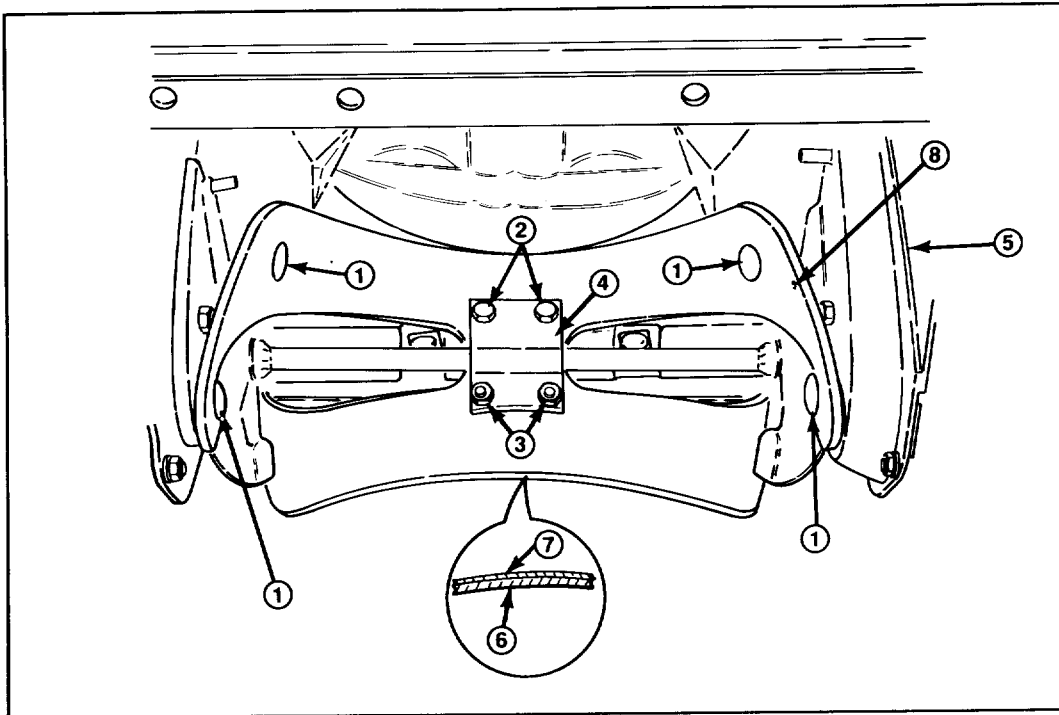

Figure 16
1. REMOVING BLADE (Fig. 16)—Remove (4) torx screws (Bit No. T27), (2) capscrews, and (6) locknuts securing blade to rotor shaft assembly.
2. Slide the blade out from between the blade support (Fig. 16).
3. **INSTALLING NEW BLADE**—The rotor blades are made of laminated rubber. Examine the edge of a blade to see the difference in layer thicknesses (Fig. 16).
Both blades must be installed with the thick side facing down, and the wear indicator holes must be on the drive belt cover side (Fig. 16). If one blade is installed with the thicker layer facing up and the other blade installed with the thicker layer facing down, the blades will be unbalanced, causing the snowthrower to "hop" or "bounce."